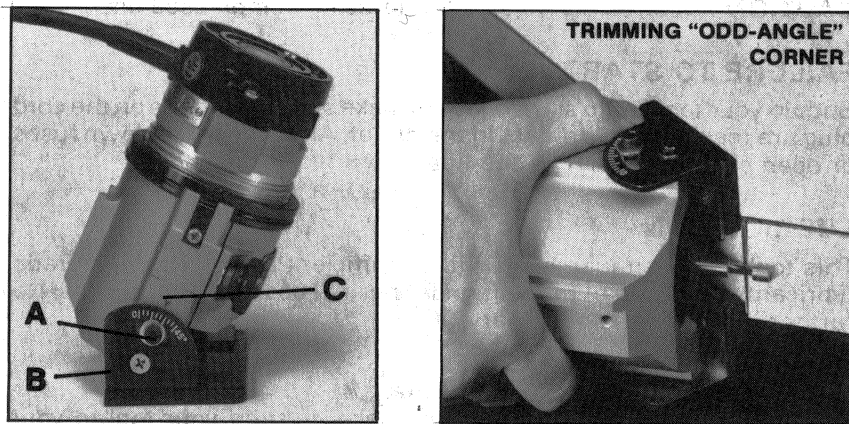

Fig. 5
2. Loosen two tilt locking screws (A) Fig. 5 (one on each side of base) using the 5/32" Allen wrench furnished with your Laminate Trimmer.
3. The base (B) Fig. 5, may now be adjusted to any angle between "0" degrees and "45" degrees to match the angle of the corner to be trimmed. Align the appropriate angle mark with the index mark (C) Fig. 5.
4. Tighten the two tilt locking screws (A) Fig. 5.